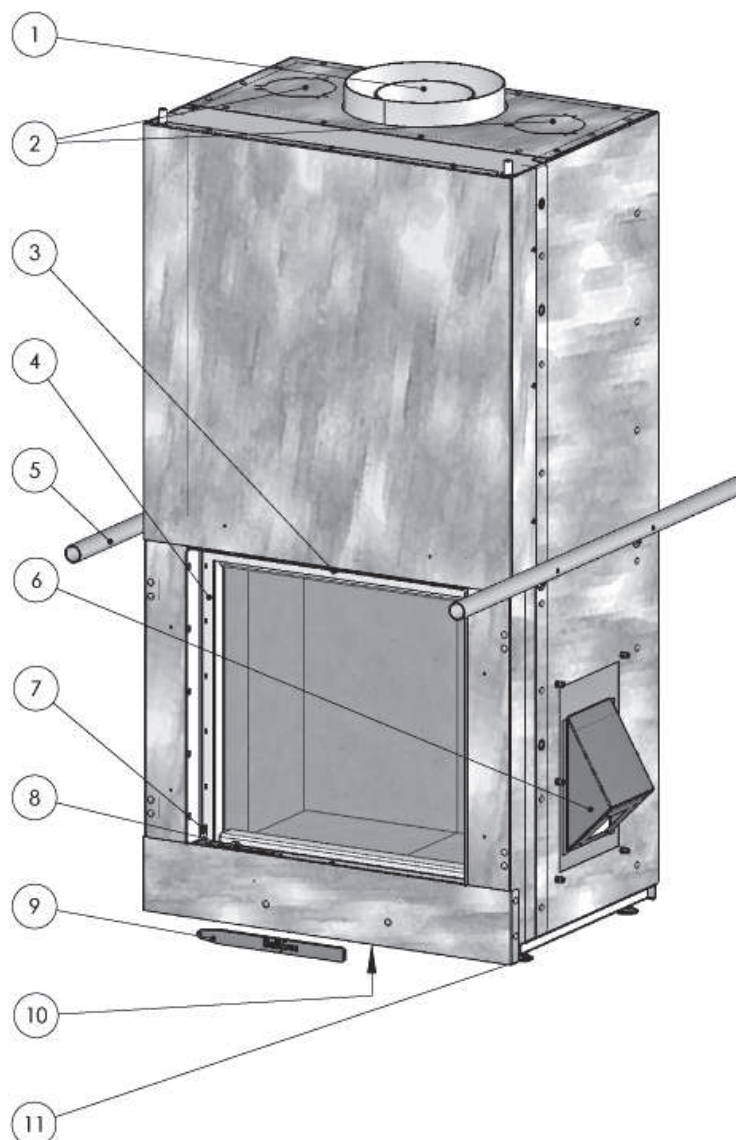

Figure 3: Commande
7.2. AMORÇAGE DU FEU (Figure 3)